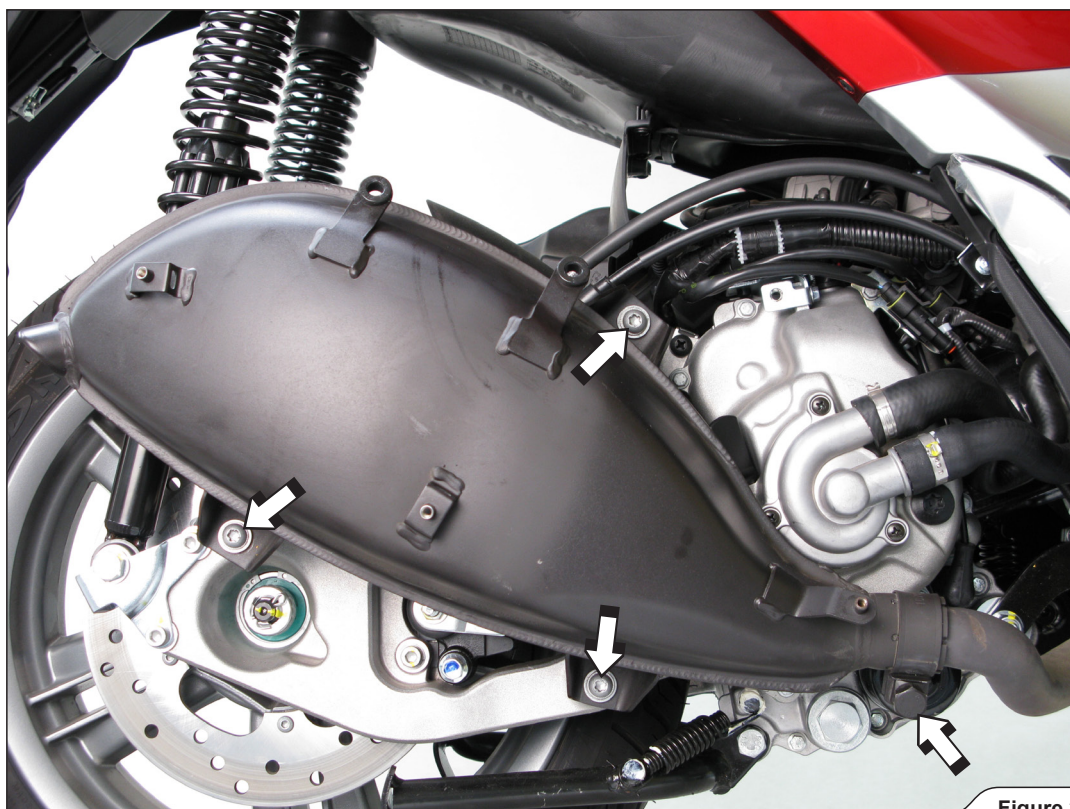

Figure 2
3. Untighten the marked link pipe clamp, unscrew the marked muffler bracket bolts and remove the stock muffler off the scooter (**Figure 2**).